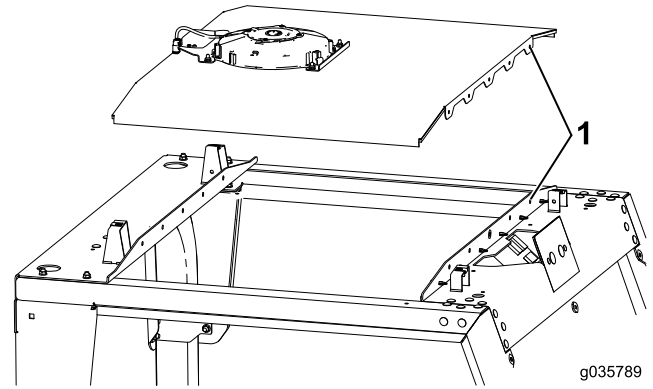

Figure 4
2. Place the ceiling assembly on the machine, lining up the rivet holes in the ceiling assembly with the rivet holes on the machine (Figure 4).